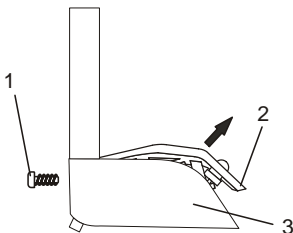

Fig. 10
2. Remove the LED module screw (1) using a small \oplus screwdriver (Fig. 10).
3. Lift upward on the front of the LED module (2) and remove it from the LED worklight housing (3).